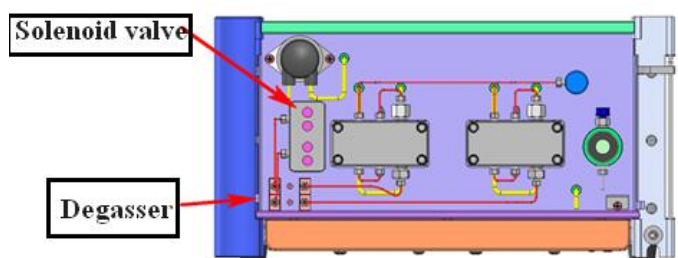

Figure 5-14 Connecting pipes on the front pane
- 4) Install the wiring harness of solenoid valve B on the right hole of the wiring harness of solenoid valve A in a red-black sequence, as shown in the following sequence. Install it on the front panel, as shown in Figure 5-14.